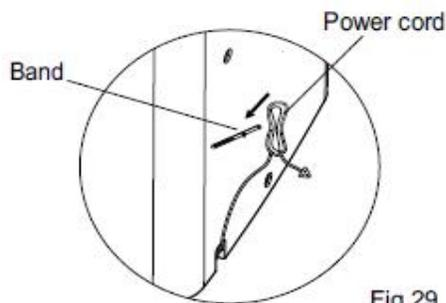

Fig.29
- Wrap the power cord and bundle it with the tape (Fig.29)